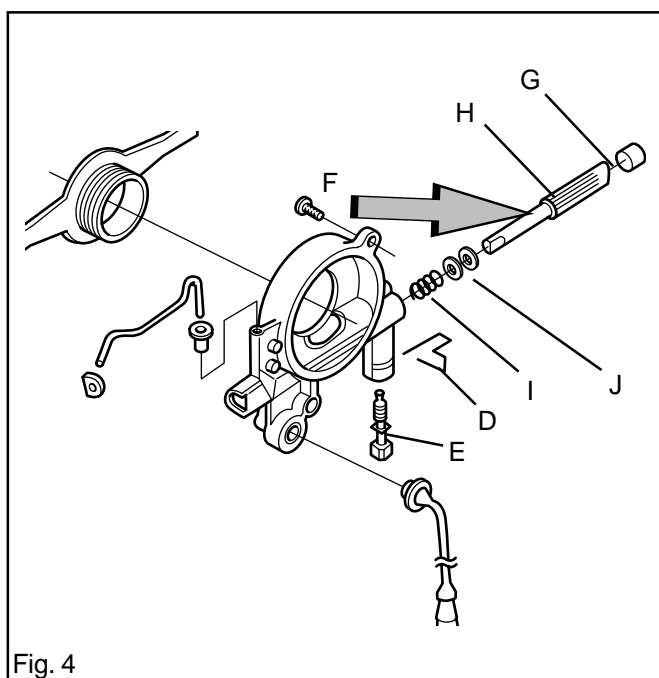

Fig. 4
1. Fit the clutch shoes on the hub and fit the springs with circlip pliers. See fig. 4.
7. Remove the clip (D) and unscrew the adjuster screw (E). See fig. 4.
8. Use a pair of pliers and push on the pump piston at F so that the cover plug (G) and pump piston (H) can be removed. See fig. 4.
9. Use a pair of pliers and pull out the spring (I) and 2 washers (J). See fig. 4.
2. Place the spring (I), 2 washers (J) and pump piston (H) in the pump housing. Oil in all parts with chain oil. See fig. 4 page 28.
3. Use a screwdriver to press in the pump piston and screw home the adjuster screw (E). See fig. 4 page 28.
4. Fit the cover plug (G). See fig. 4 page 28.
5. Fit the clip (D). See fig. 4 page 28.
In the cold start mode (fig. 4) the choke valve (D) is fully closed. This increases the vacuum in the carburettor so that fuel is sucked more easily from all the diffuser jets (E, F and G). The throttle valve (H) is partly open.